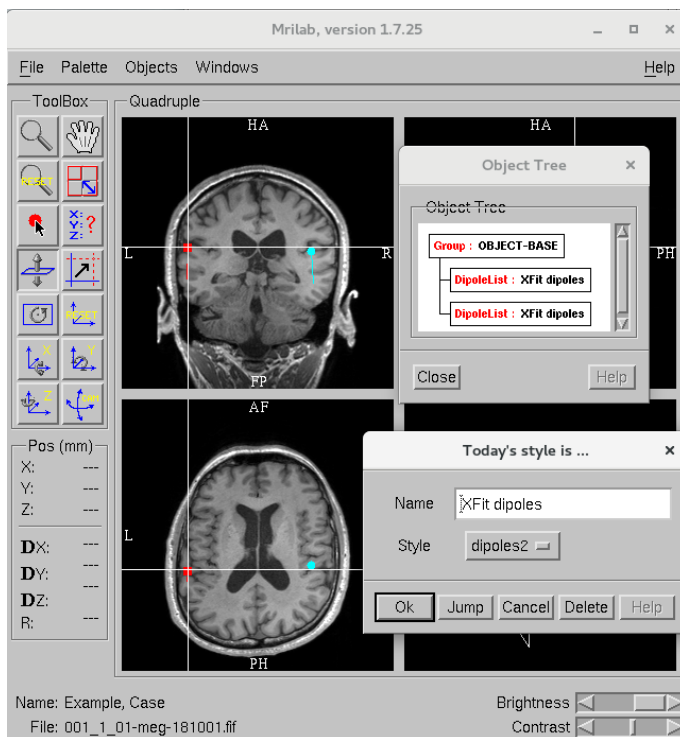

Figure 38: *MriLab* object tree and changing the dipole appearance.
- Select **Windows -> Object tree**, double-click on an object in the object tree to select a new style for the dipoles (Figure 38).